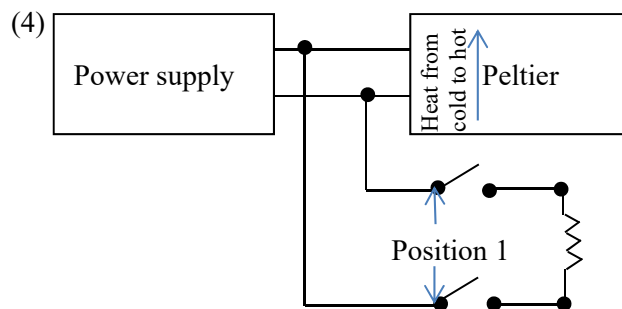
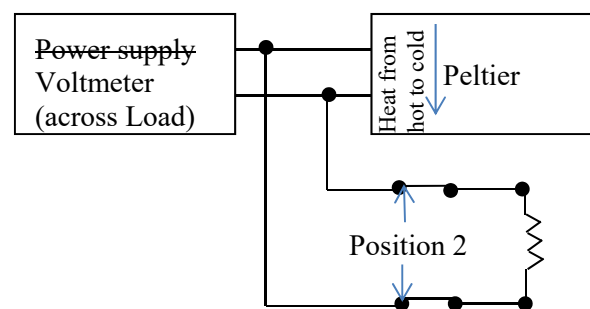

Figure 2a: Peltier Module as TEC
Figure 2b: Peltier Module as TEG
- (3) Connect the toggle switch, Peltier and the two given wires to the breadboard and power supply such that when the toggle switch is in position 1, the power supply is supplying electrical power to pump heat from one side of the Peltier module to the other (TEC) (Figure 2a). When the toggle switch is in position 2, the setup will allow the heat from the hot end of the Peltier module to move spontaneous to the cold end to generate an electric current (TEG) (Figure 2b) and the power supply will act as a voltmeter.